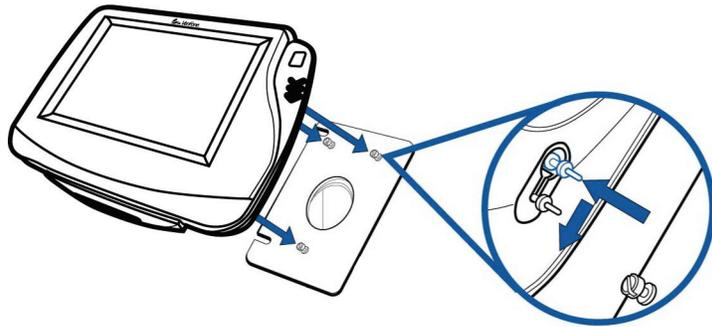

Figure 2 **Aligning MX800 Series Terminal with the Typical Mounting Plate**
- 5 Align and seat the three pins on the top plate of the stand mount platform with the three key-hole slots on the bottom of the terminal (Figure 2).